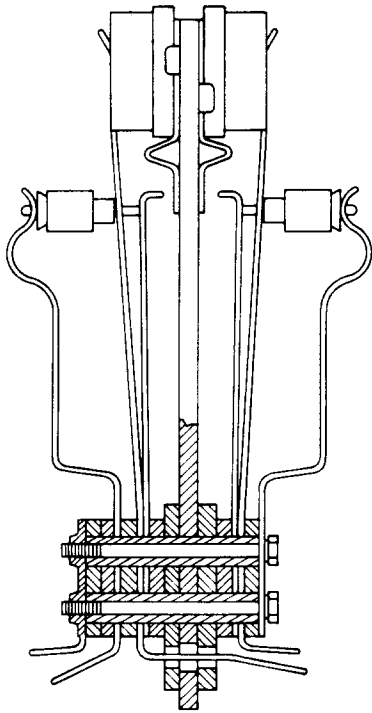

Fig. 2—C50A and C52A Protectors—C50 and C52 Protector Mountings
- 2.02 The C-type protectors (Fig. 2) are arranged for both heat coils and protector blocks and are intended for use in terminating exposed outside plant cables.